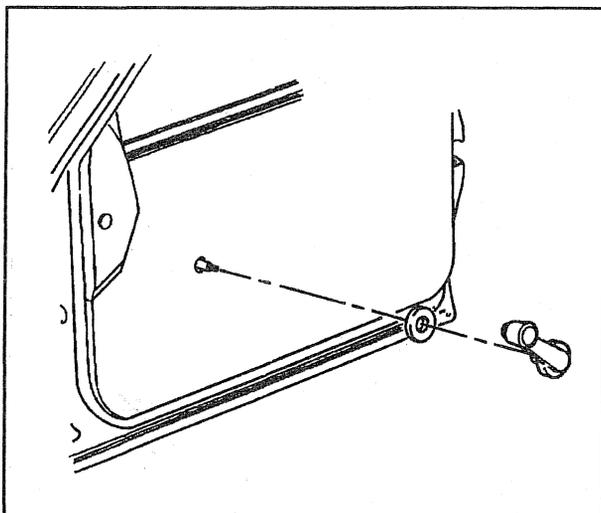

Figure 2—Typical Window Regulator Handle and Bearing Plate
2. Bearing plate (figure 2).
1. Bearing plate to door (figure 2).